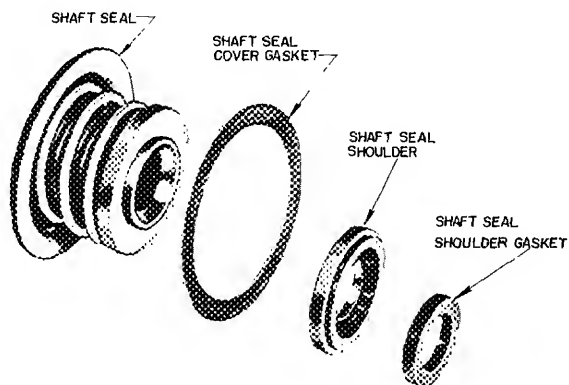

FIG. 26 - STATIONARY BELLOWS SEAL
4. Remove the shaft seal shoulder and neoprene gasket. (See Fig. 26.)